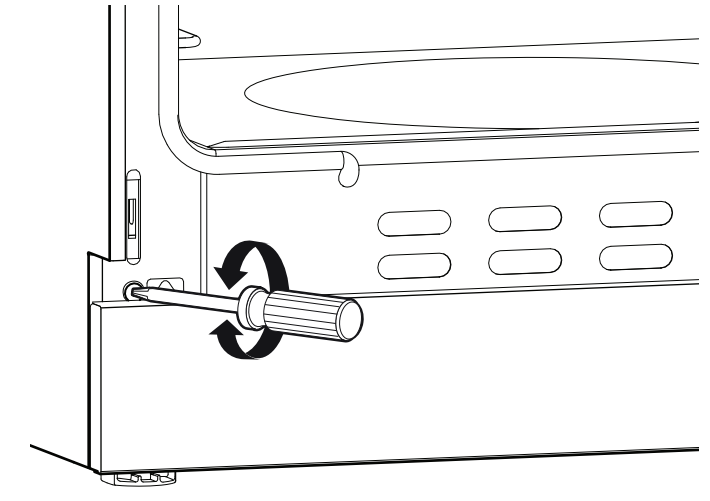

Figure 25: Hinge Receiver Adjustment Screw
4. If door or handle appears slightly tilted, you may adjust the hinge receiver by rotating the large Torx-head screw located directly below the hinge receiver with a T-20 Torx driver. Rotate each screw respective to its side and direction the door needs to be adjusted (Figure 25).